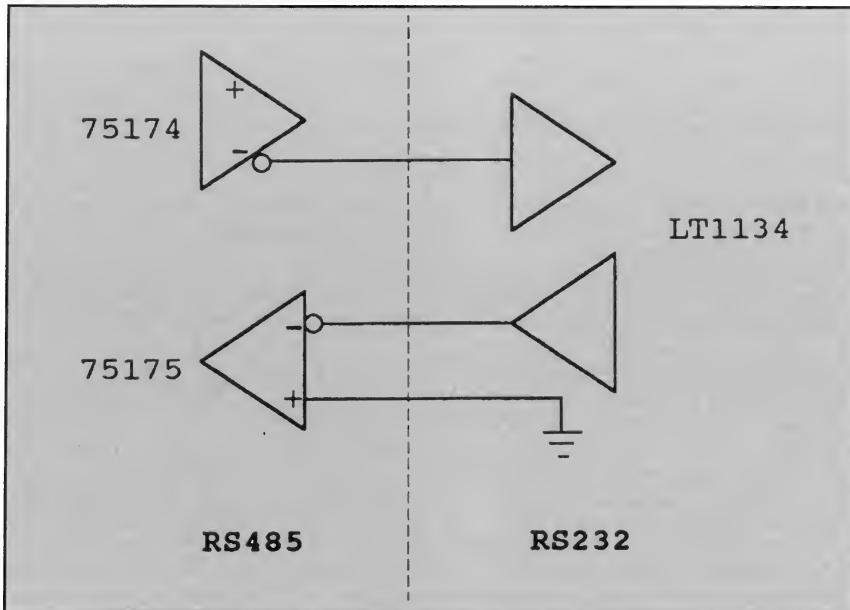

Fig. 1. Cross-connection details for RS-232 and RS-485 ports.
*Windows 95* opens with a Desktop (Fig. 1) that includes My Computer, Inbox, Recycle Bin and Setup the Microsoft Network. If you're a LAN user you get Network Neighborhood, and notebook users will see My Briefcase. These icons are really "radio" buttons that represent a *Windows 95* function. Clicking on one of these buttons opens up a whole world of options. For example, clicking on Network Neighborhood lets you browse the network, send and read e-mail or send faxes.